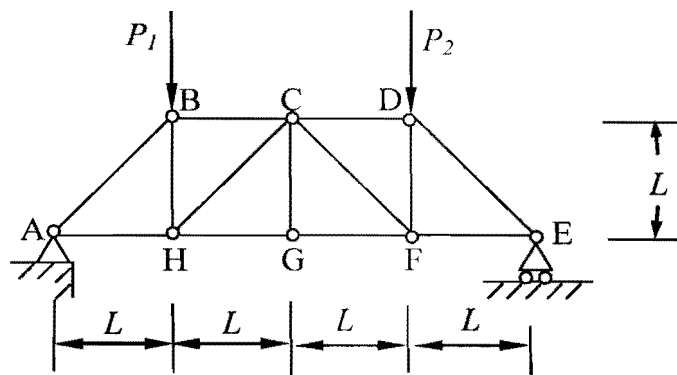

Fig. 5
* 9. The members of the truss shown in Fig. 5 have the same cross-sectional area A and Modulus of Elasticity E .